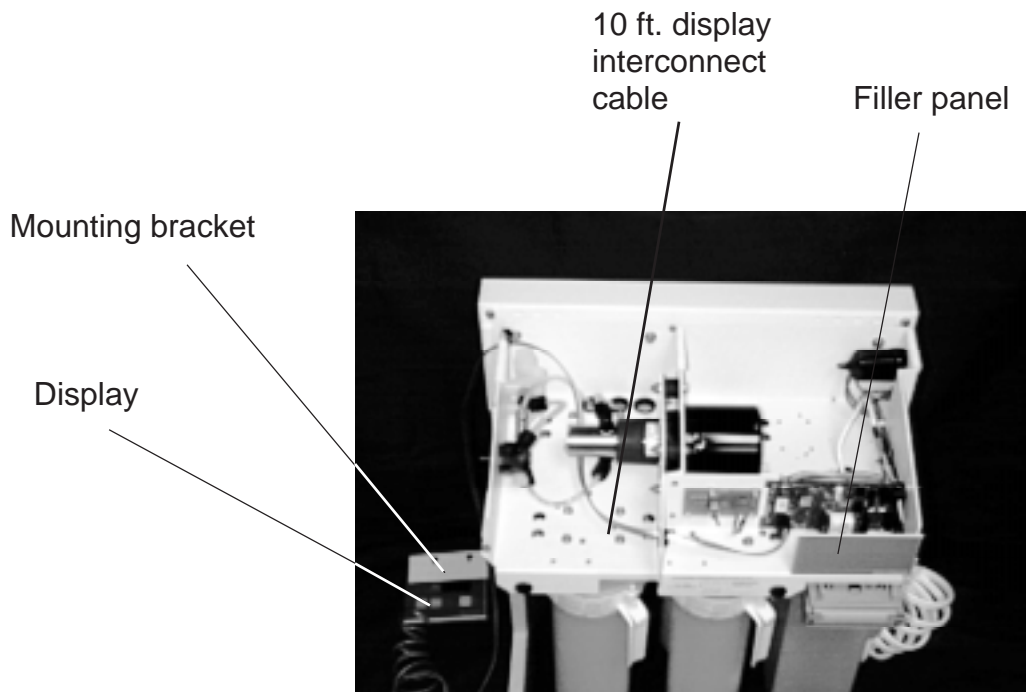

Figure 10 Remote Display Mounting
5. Attach the 10 foot cord to the connector on the main circuit board and route the interconnect cable through the NANOpure as shown on Figure 10. Attach suppressor removed in Step 3 to 10 foot cable (on 230V systems only).